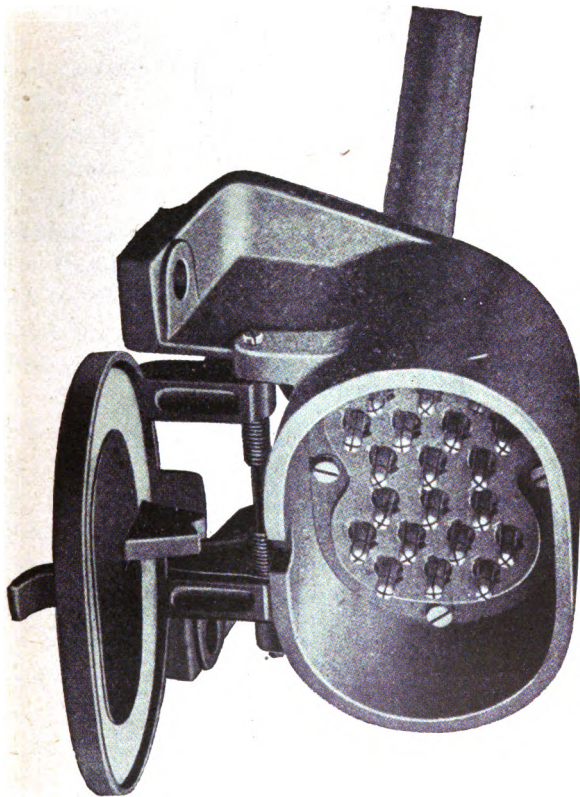

Fig. 515. Train Cable Coupler Socket.
65. THE TRAIN CABLE COUPLER SOCKET (Fig. 515) has twenty contact studs otherwise the general description, paragraph 23, Suburban Cars, will apply to this coupler socket.